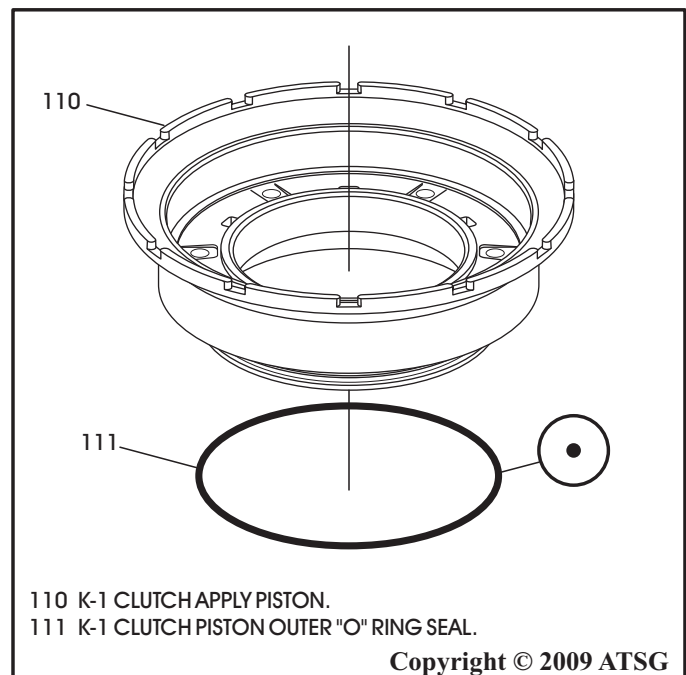

Figure 88
6. Install a new "O" ring seal on the K-1 clutch apply piston, as shown in Figure 88, and lube with a small amount of Trans-Jel®.